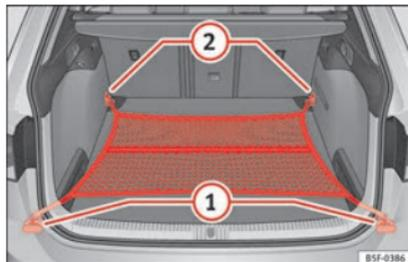

Fig. 134 In the luggage compartment: net bag hooked up at floor level (LEON ST model).
- As applicable, lift the front fastening rings » **Fig. 134 2**.